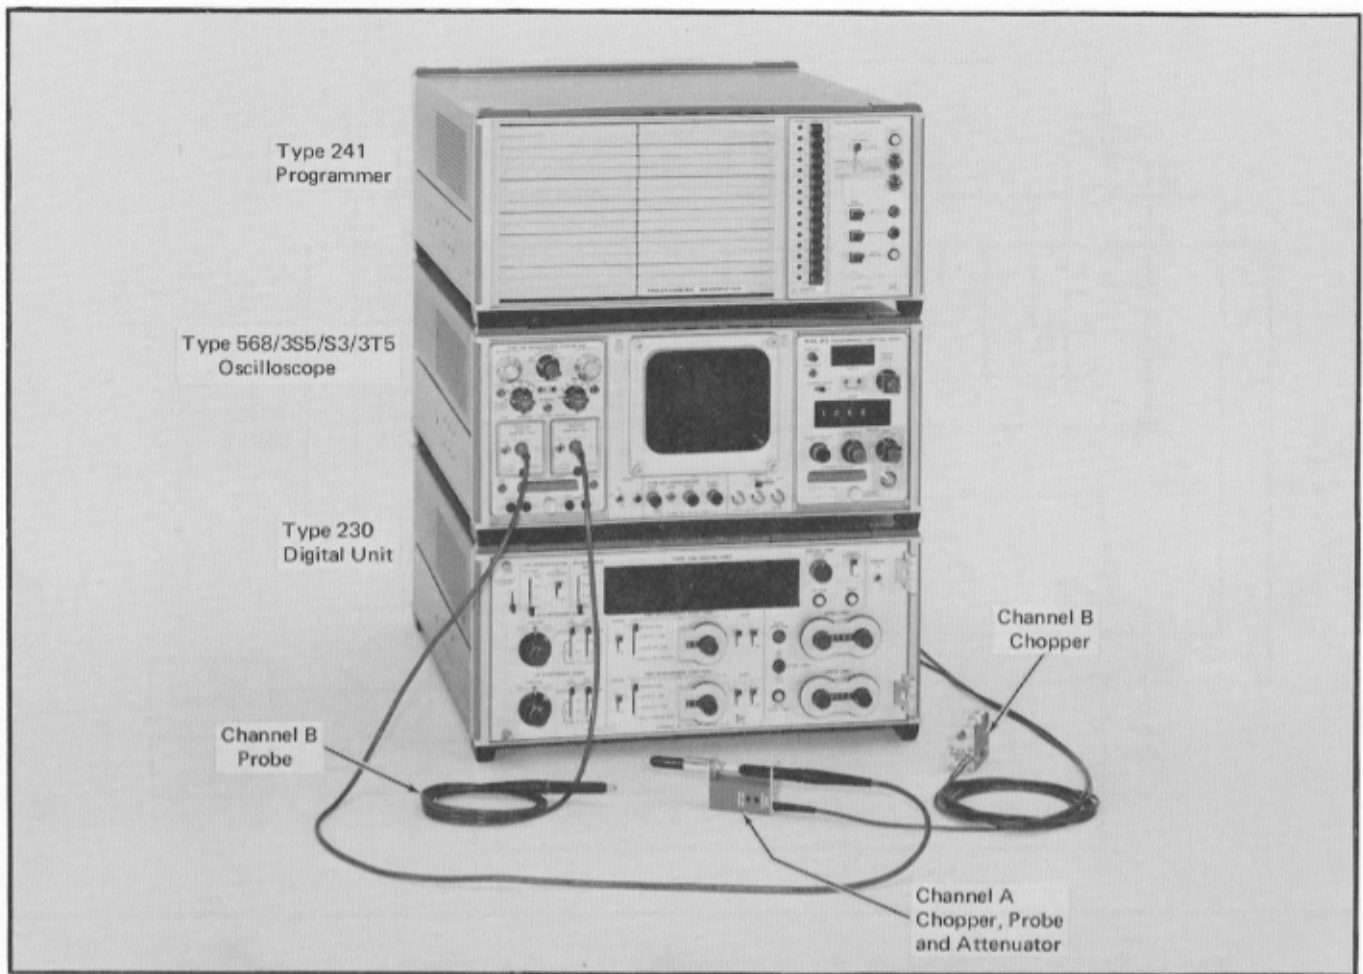

Fig. 2-14. Chopper Test Setup.
g. Connect the BNC to Probe Tip Adapter to the Type 114 Output and insert the 10X Attenuator of the Chopper Head assembly. See Fig. 2-14 for the Chopper Test Setup.